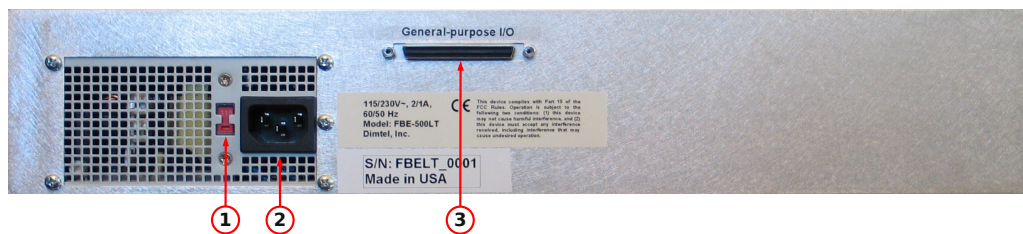

Figure 3: Rear panel features
WARNING: Before connecting power to the unit make sure the voltage selection switch (Fig. 3, item 1) is in the correct position (115 or 230 V).
1. Configure voltage selection switch (Fig. 3, item 1). Mains supply requirements for the FBE-500LT are listed in Table 4;
9. Using the supplied 68-pin GPIO cable connect the iGp/iGp12 interface (Fig. 3, item 3) to the GPIO connector on the iGp/iGp12;